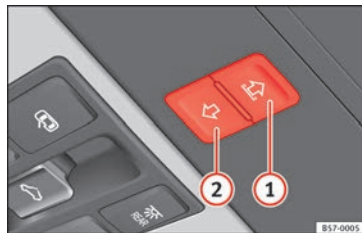

Fig. 133 On the interior roof lining: switches for the sun blind.
Buttons **»» Fig. 133 ① and ②** have two levels. The first level opens or closes the sun blind fully or partially.
- *Sun blind*: within approx. 5 seconds of having activated the anti-trap function, press button **»» Fig. 133 ②** until the sun blind closes completely.